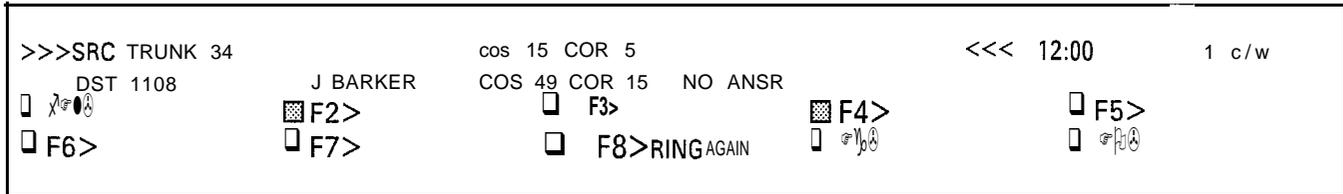

Figure 3-19 Answering a No Answer Recall
3.25 If the Attendant has released a source call to a destination and the destination party does not answer within the programmed time-out the source call will recall to the Attendant Console. When the Attendant answers the recall the LCD will be as in Figure 3-19. Line 2 will indicate that the destination party did not answer (NO ANSR) and the RING AGAIN prompt will be ON.